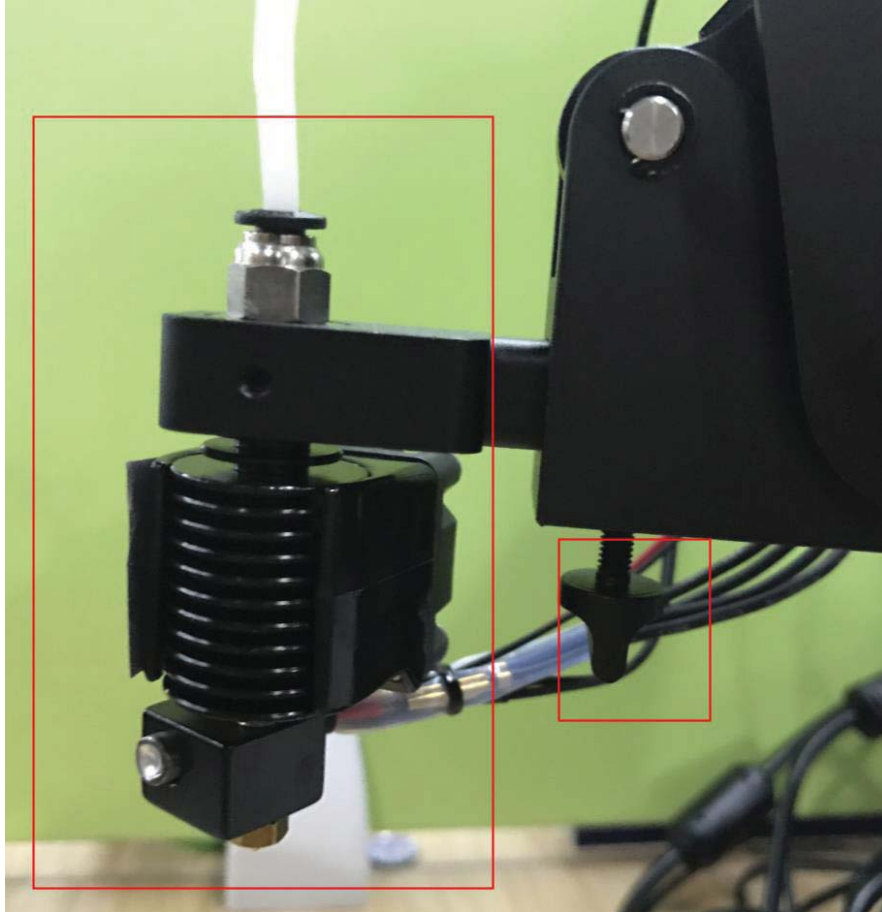

Figure 5.120 Fix hot end
- Step 4** Fix the hot end on the Dobot Magician with butterfly nut, as shown in Figure 5.120.